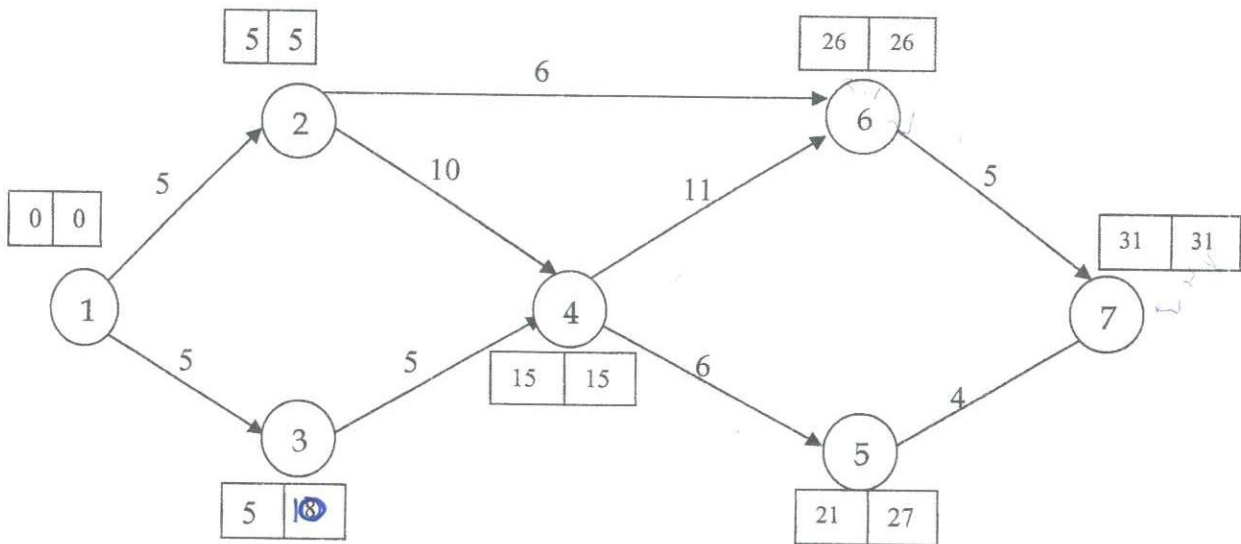

Figure Q2: Initial Activity relationship diagram
- Q2 Assume that you are required to prepare a construction plan for a project owned by one of your clients. Figure Q2 represents the initial plan prepared by you together with planning information in Table Q2. However, your client needs to complete the project earlier than your initial plan. You as a planning engineer are now in the process of seeking the possibility of shortening the total project duration. As a part of this work, carry out the following.